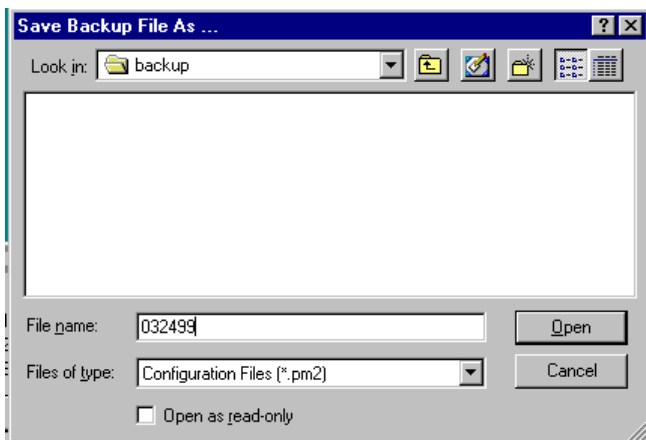

Fig. 13.10
9. After the upload button is pressed, the Save Backup dialog box appears. See Fig. 13.10. Type in a file name for the backup, such as the date, and press the Open button.